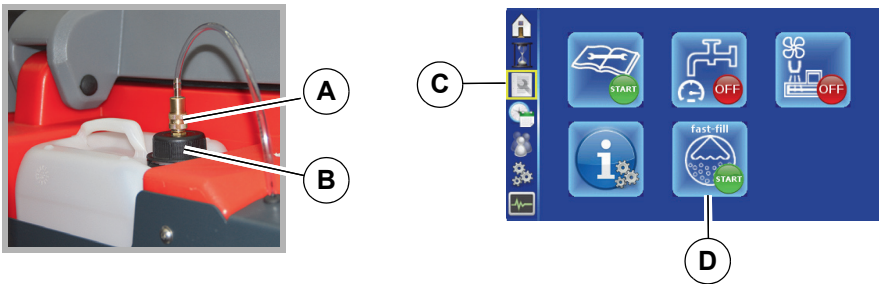

Fig. 20:
1. Release quick coupler **Fig. 20-A** at canister lid by pulling the lower ring of the coupling upwards. Unscrew lid from filled canister. Screw on lid with integrated hose **Fig. 20-B** and fit quick coupling with hose.
3. In the sub-menu *Maintenance* **Fig. 20-C**, select the *Fast-fill menu* **Fig. 20-D** with the turn-push knob and confirm.